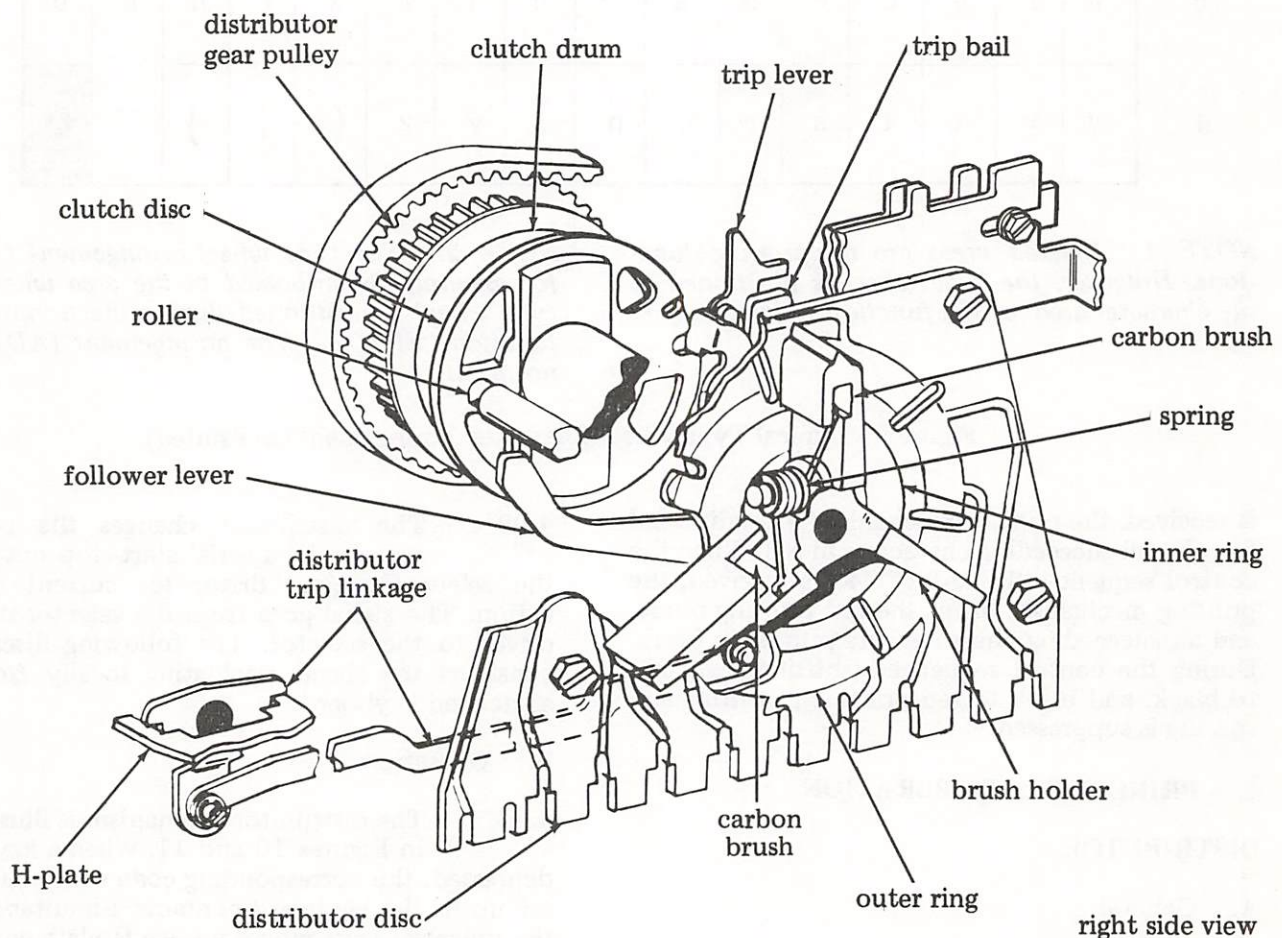

Figure 10 - Distributor Mechanism
4.03 The distributor mechanism is illustrated in Figures 10 and 11. When a keytop is depressed, the corresponding code combination is set up in the keyboard contacts. Simultaneously the universal lever moves up. An H-plate connects the universal lever of the keyboard to the distributor clutch trip linkage in the typing unit. As the universal lever moves up, the H-plate pivots the distributor trip linkage. The distributor